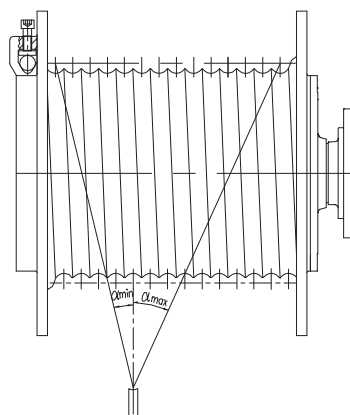

图4/ Figure 4
4.3 为了保证钢丝绳正常缠绕，要求绳偏折角  $\alpha$  维持在允许范围之内（图4），应注意以下几点：
4.3 To achieve acceptable rope winding, the deflection angle  $\alpha$  must be kept in the allowable value (figure 4) Attent the following points: